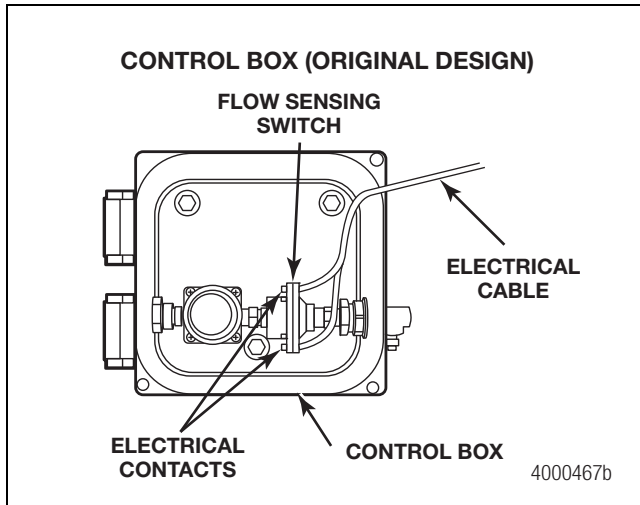
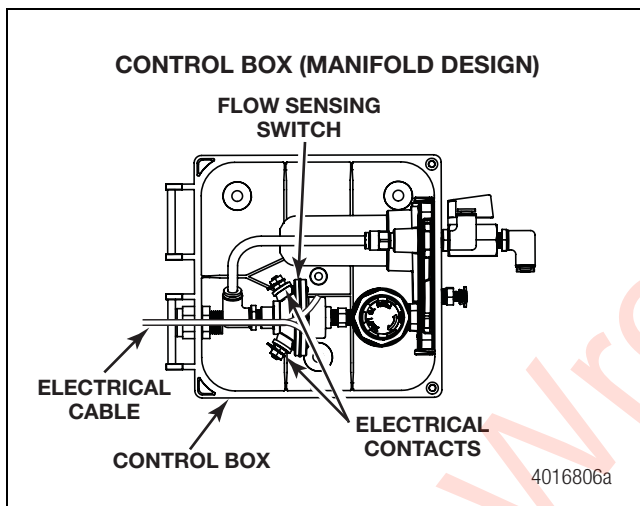

Figure 2.69
Figure 2.70
5. Route the remaining wire harness through the liquid tight seal on the control box and connect the harness to the electrical contacts of the flow sensing switch. The black or white wire can be connected to either terminal on the flow switch and are interchangeable. Figure 2.69 and Figure 2.70.